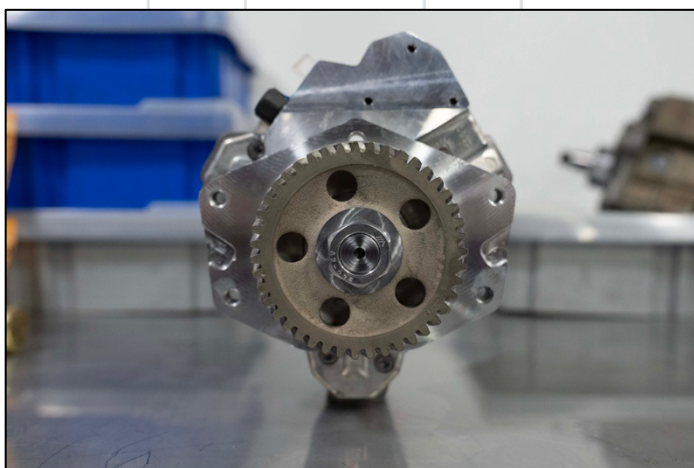

Figure 29: HP4 Flange on S&S CP3
1. **Install HP4 flange on CP3 with supplied hardware (Figure 29) Lube O-rings with oil or equivalent.**